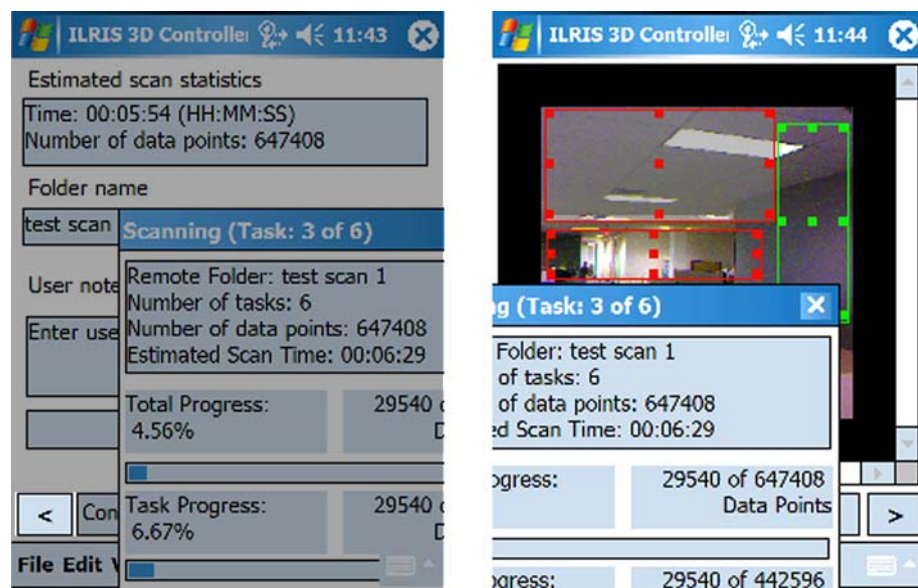

Figure 56: Viewing scan progress on the camera image
You can also monitor the progress of the scan by tapping **View > Picture Blending**. When you select this feature, ILRIS-3D intensity data gradually overwrites the camera image on the Pocket PC as the scan progresses, as shown in Figure 56.
1. Drag the Scan Progress window to the right, and tap the **Back** button (Figure 56).